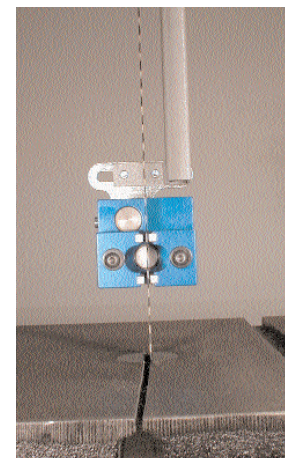

Fig. 25
7. Loosen the 2 bolts that clamp the sideways adjustment and move the guides so that the back blade guide is on the center line of the blade. See Fig 25.